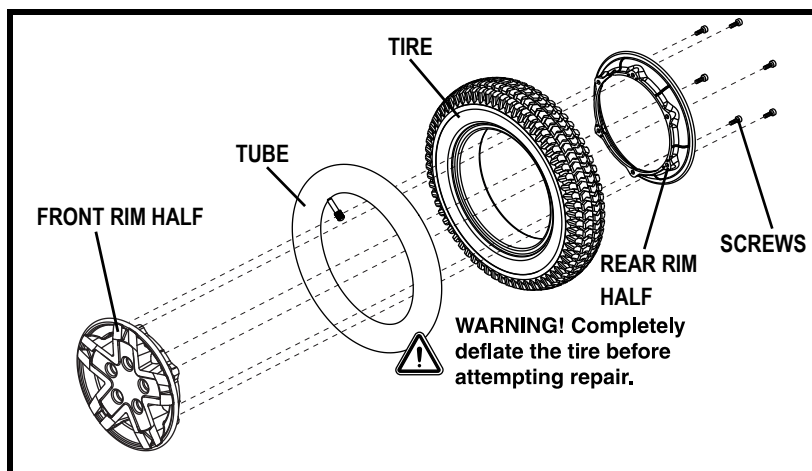

Figure 19. Rival Drive Wheel Disassembled
6. Remove the screws and separate the front and rear rim. See figure 19.
10. Reinstall the five (5) lug nuts onto the wheel hub and tighten.